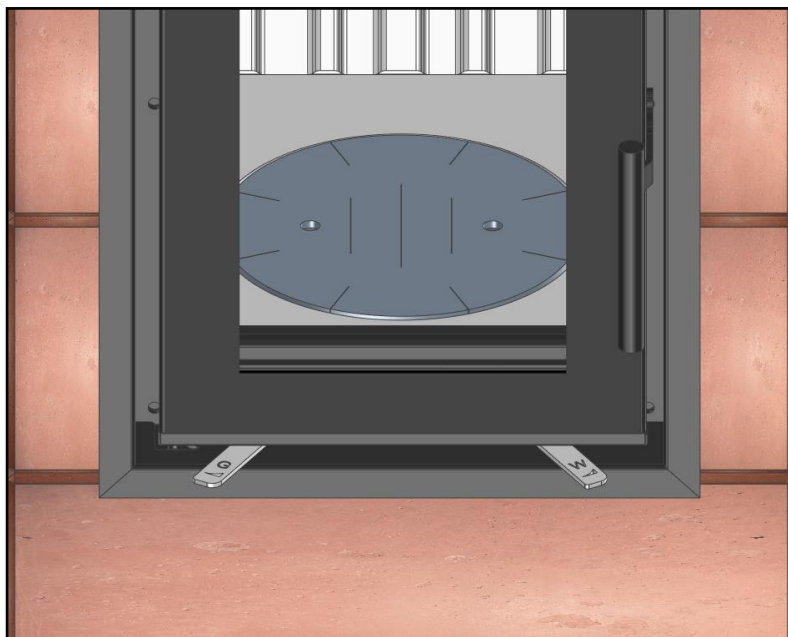

Fig.33
12. When burning wood logs, the correct setting of the regulators is shown in Fig. 35. The "G" regulator is moved to the left as far as possible. "W" regulator moved to the right as far as possible. Moreover, when burning wood logs or briquettes traditionally, a steel cover should be placed on the burner as shown in Fig. 33.